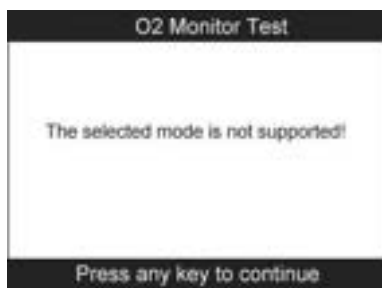

Figure 5.24
- If the vehicle does not support the mode, an advisory message will be displayed on the screen (Figure 5.24).